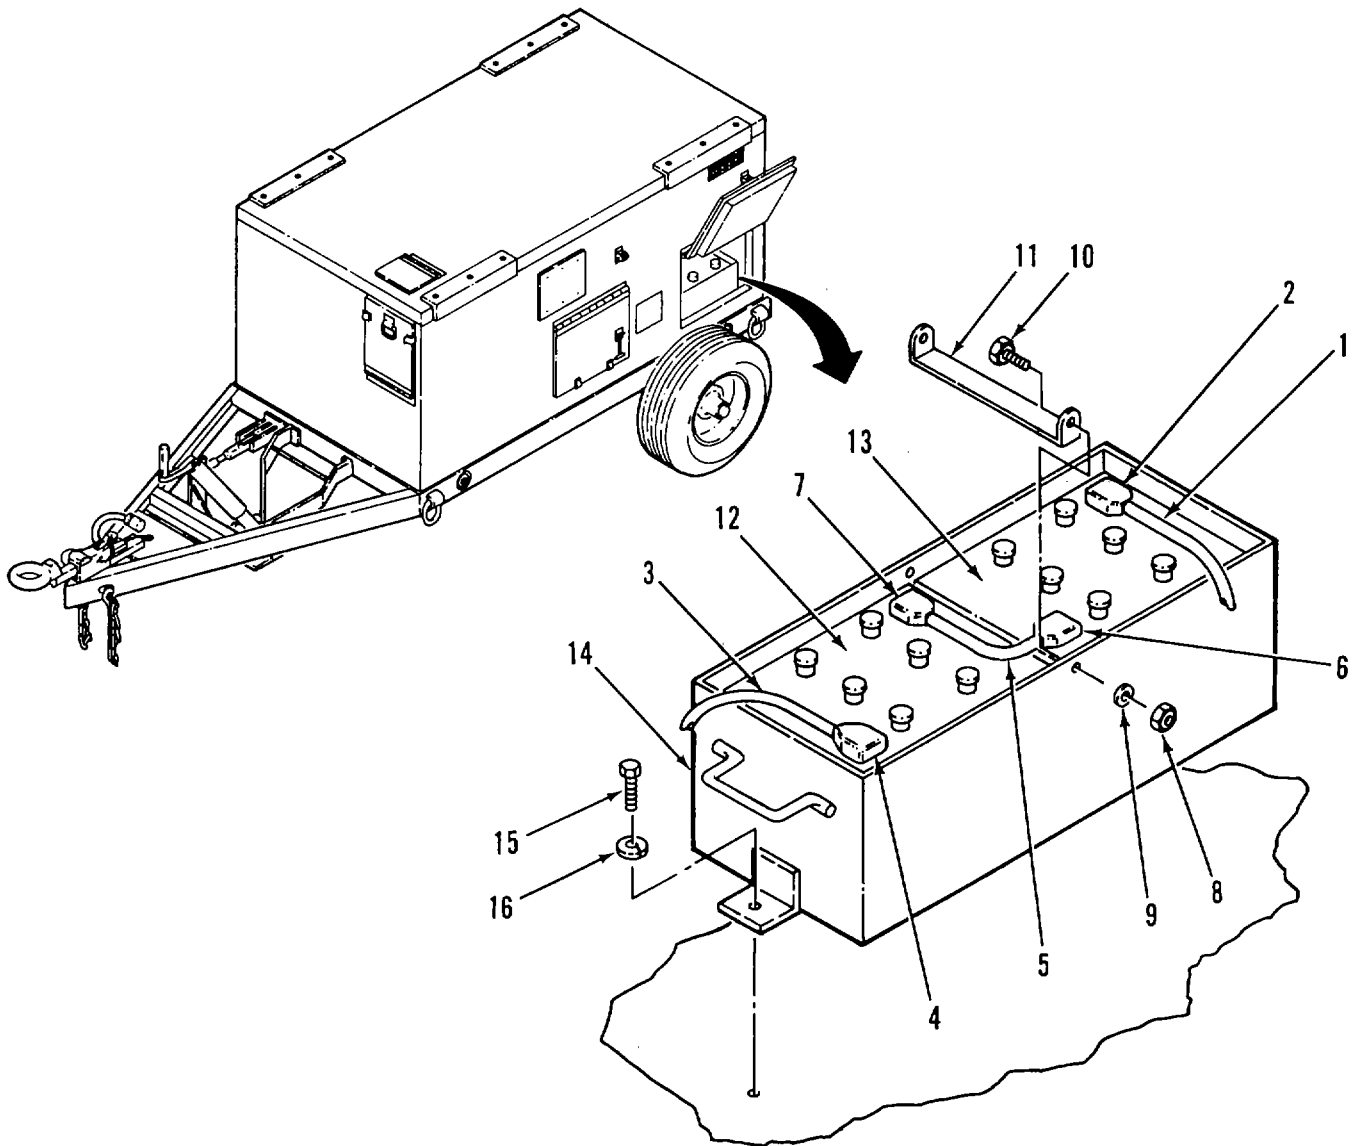

Figure 2-3. Battery Assembly
b. REMOVE. (Figure 2-3)
(1) Remove batteries as follows:
- (a) Disconnect negative battery cable (1) from battery terminal (2).
- (b) Disconnect positive battery cable (3) from battery terminal (4).
- (c) Disconnect battery cable (5) from battery terminals (6 and 7).
- (d) Remove nuts (8), lockwashers (9), bolts (10), and battery bracket (11).
- (e) Remove batteries (12 and 13) from battery box (14).
(2) Remove capscrews (15), lockwashers (16), and battery box (14). Discard lockwashers.